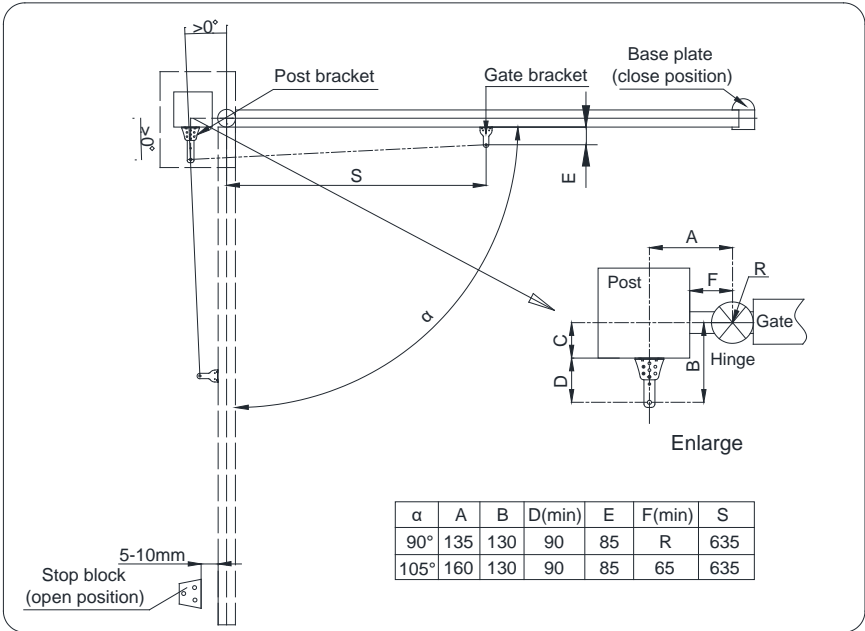
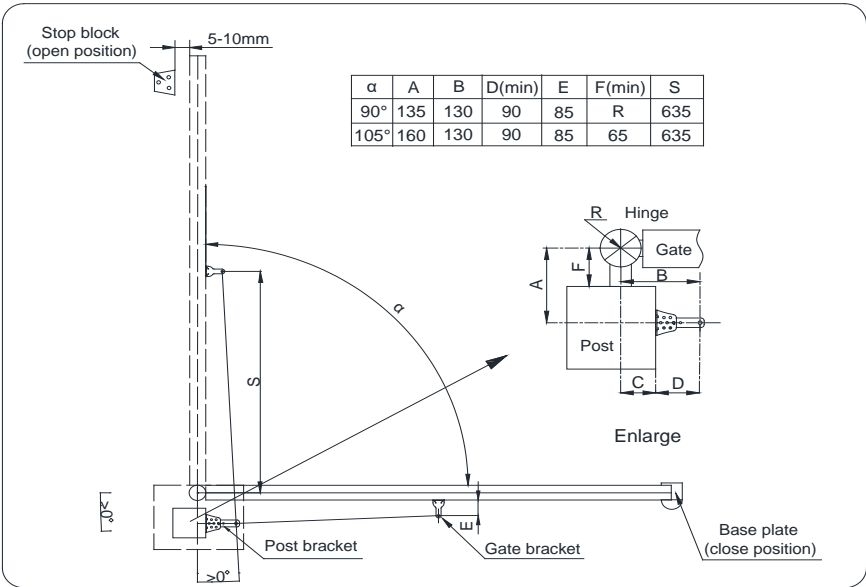
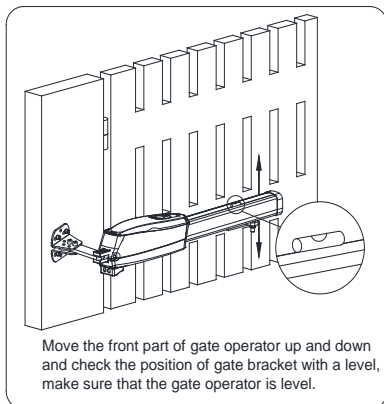

Fig.1 Pull to open mounting geometry
Fig.2 Push to open mounting geometry
Fig.12
- Move the front part of gate operator up and down slowly, check the installation height of the gate bracket, fit the gate bracket to the gate, and the centerline of the gate bracket should align with the vertical line, and use a level to check the flatness of the operator (See Fig.12), fix or weld the gate bracket on the gate, the bracket installation should meet the specifications as shown in Fig.1 and Fig.2.
- After the gate reaches the desired angle (90° or 105°), ensure 5-10mm space exists between the gate and stop block See Fig.1 or Fig.2. This margin is required to prevent the gate from bumping on the stop block.